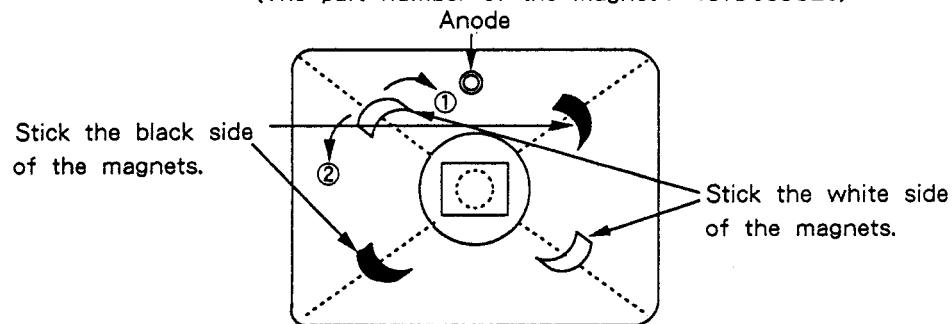

Fig. 14-2 Rear view of CRT
* To correct the long side direction (X axis) move the magnets to the direction of 1 in Fig. 14-2.
* To correct the short side direction (Y axis) move the magnets to the direction of 2 in Fig. 14-2.